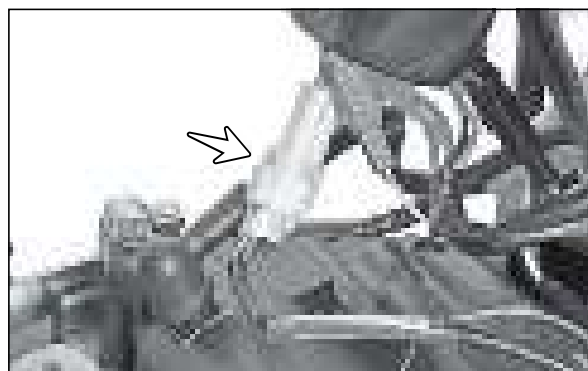

Fig. 3.109
- Disconnect the speed sensor wiring socket from the main wiring harness. (Fig. 3.109)